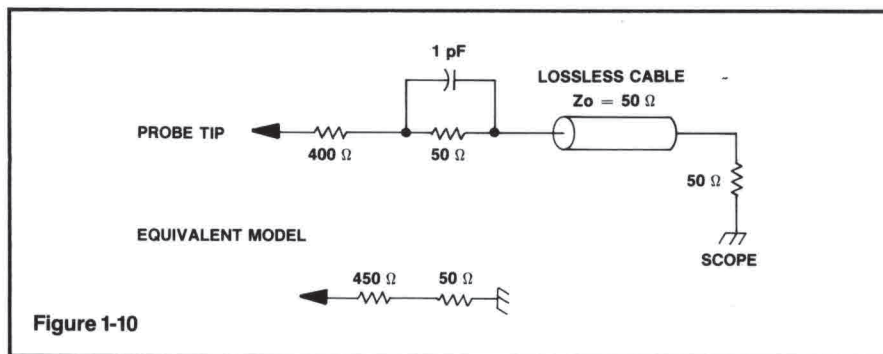

Figure 1-10
**Low Z Passive Probes.** A "Low Z" passive probe offers very low tip capacitance at the expense of relatively high resistive loading. A typical 10X "50 ohm" probe has an input C of about 1 pF and a resistive loading of 500 ohm: Figure 1-10 shows the circuit and equivalent model of this type of probe.